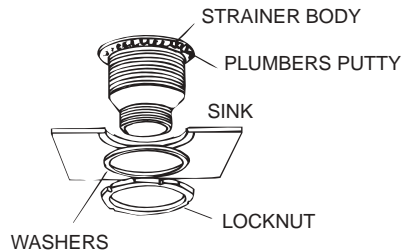

Figure 3
7. Install the basket strainer. First, clean around the drain hole with a damp cloth to remove any dust or other particles that may interfere with a watertight seal. Remove the washers and nuts from the basket strainer. Pack the underside of the basket with Plumbers Putty and push it firmly in place. Put the large rubber washer over the basket threads from under the sink, followed by the thin washer (may be made of paper, fiber, or metal). Thread the large metal lock nut onto the strainer body and tighten (See **Figure 3**).